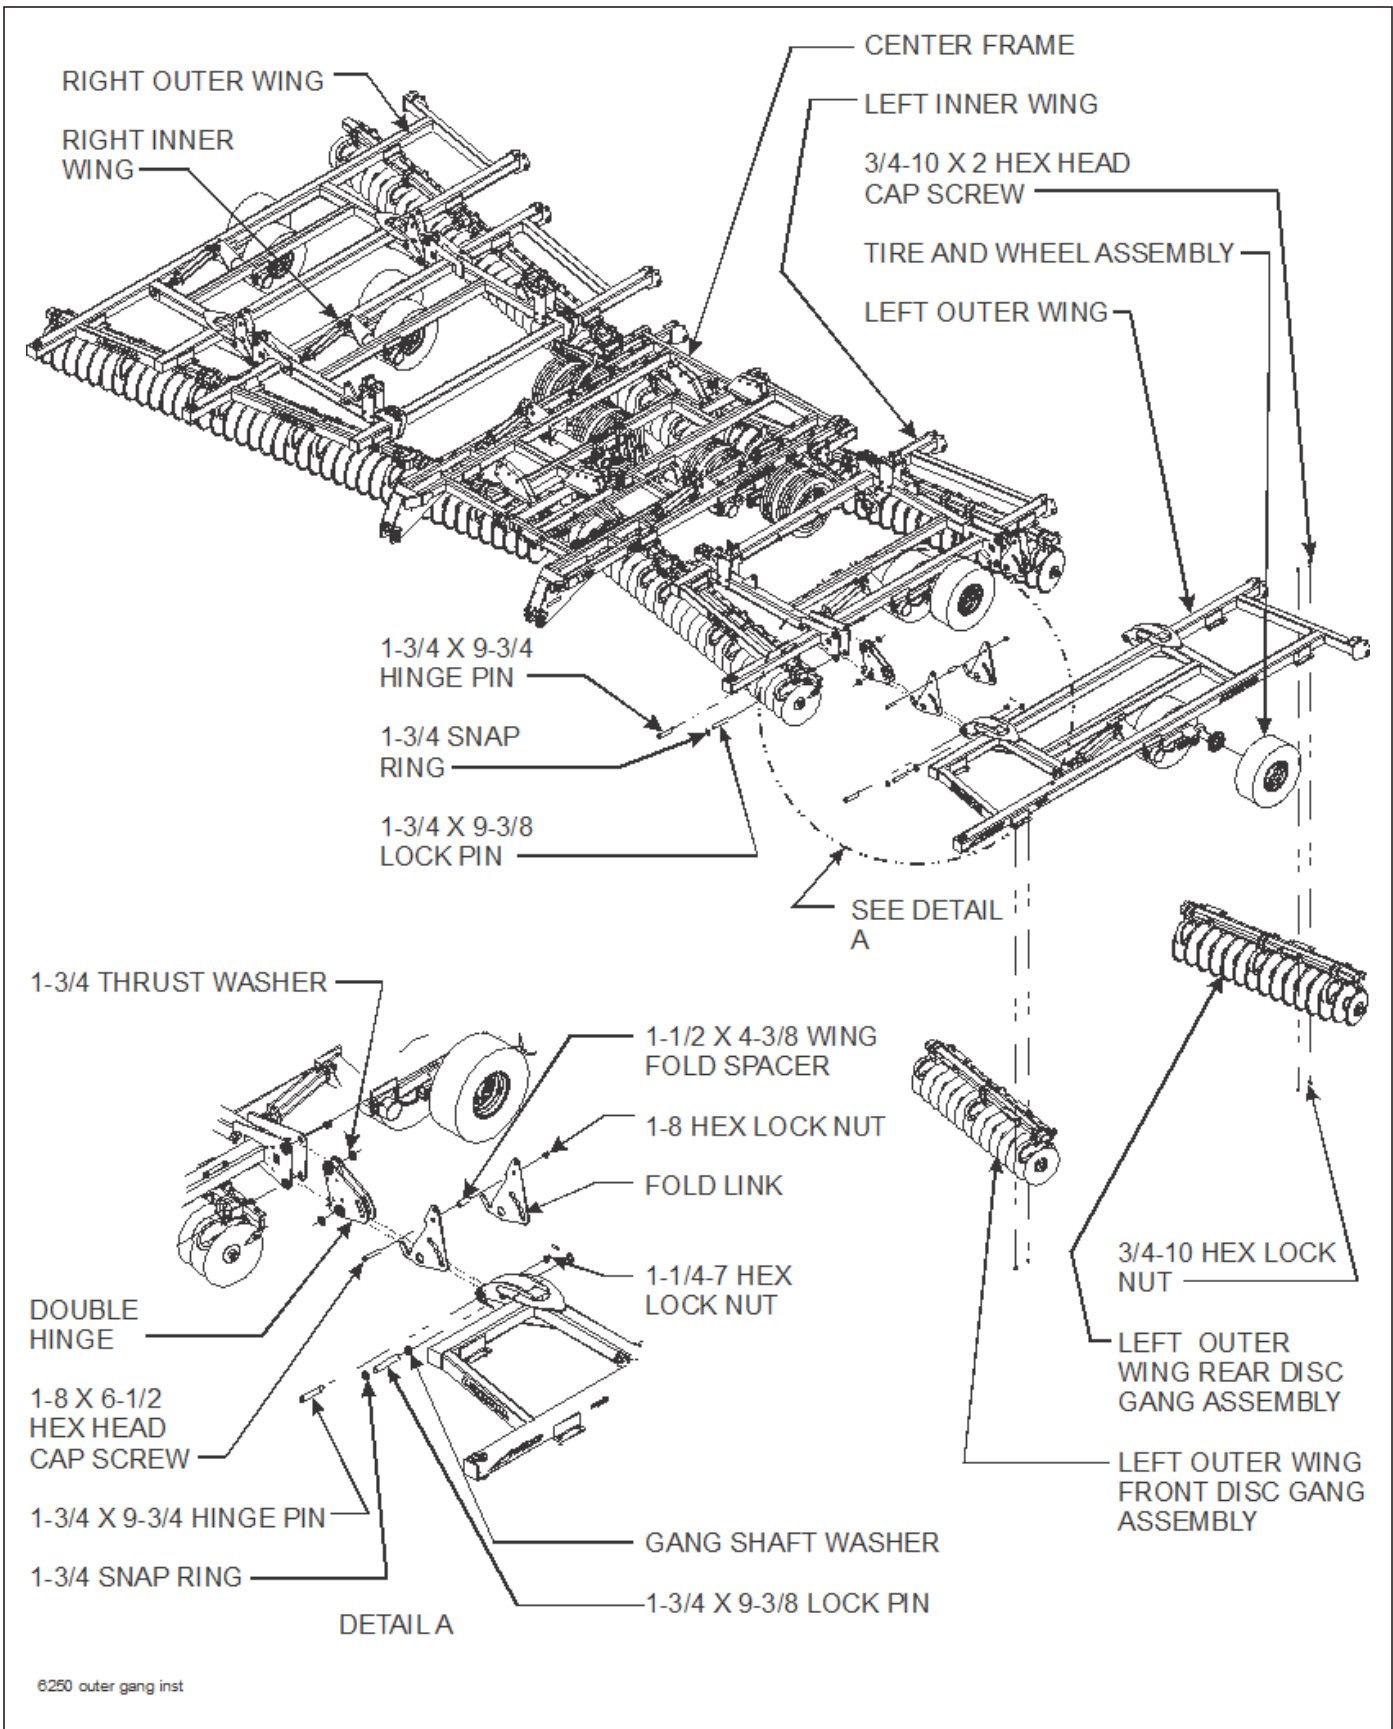

Figure 3-5: Outer Wing Frame Installation
1. Install double hinge and locks to inner wing with thrust washer toward rear of the machine using hinge pin and 1-1/4-7 hex lock nut (See Figures 3-5 and 3-7) Install two fold links per hinge, placing them over the bushing of the double hinge. Insert 1-8 x 6-1/2 hex head cap screw, wing fold spacer, and 1-8 hex lock nut to keep fold links stable while installing outer wing.
2. Attach outer wing with thrust washer toward front of machine (See Figures 3-5 thru 3-7.)